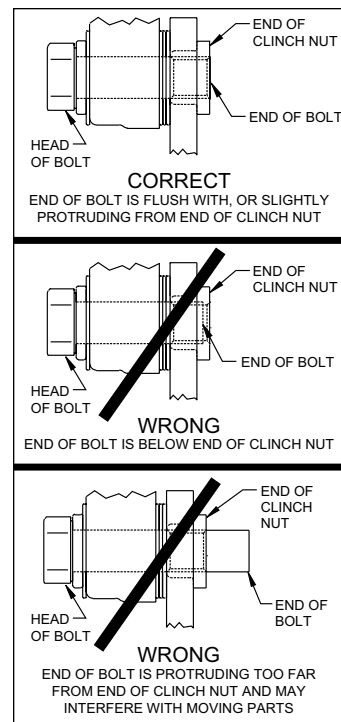

Figure 4.
STEP 7 Pack the small outer bearing cone (14) with high temperature disc brake bearing grease and install into front of hub (7). Slide the hub/rotor assembly (7/11) with outer bearing cone (14) onto the spindle. Secure using existing washer, adjusting nut and nut locking device. Adjust bearings per Original Equipment Manufacturer (OEM) specifications.
STEP 8 Install the dust cap (15) onto the hub (7). Friction created by the o-ring (16) on the dust cap (15) keeps it from unscrewing. The O.D. of the existing spindle washer may be larger than the I.D. of the dust cap (15) not allowing it to seat against the hub face. Some grinding on the washer O.D. may be necessary to clear the I.D. of the dust cap (15).
STEP 9 **NOTE:** Please reference the caution statement at the beginning of the assembly instructions. Mount the caliper (17) onto the caliper mounting bracket (1) using bolts (19) and washers (18), as shown in Figure 1. Initially place two .035" thick shims (20) on each bolt between the caliper and the bracket, Figure 1. Temporarily tighten the mounting bolts and view the rotor (11) through the top opening of the caliper. The rotor should be centered in the caliper. If not, adjust by adding or subtracting shims between the bracket and the caliper. Always use the same amount of shims on each of the two mounting bolts (19). **NOTE:** The end of each bolt (19) must be flush with or slightly protruding from the head of the clinch nut, as shown in Figure 4. If necessary, place spare shims between washer (18) and caliper mounting ear to achieve the proper clinch nut engagement. Once the caliper alignment and clinch nut engagement are correct, remove the bolts (19) one at a time, apply red *Loctite*® 271 to bolt threads, and torque to value shown in Figure 1.